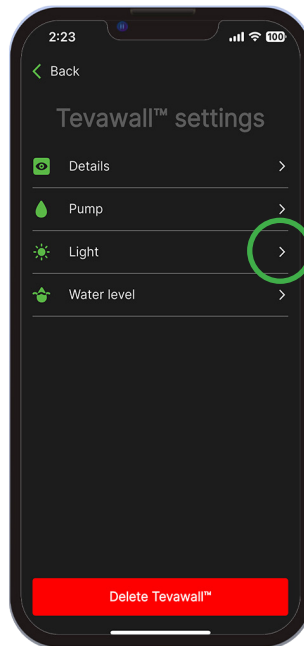

Figure 7.2
2. Select "Light" (See Figure 7.2)